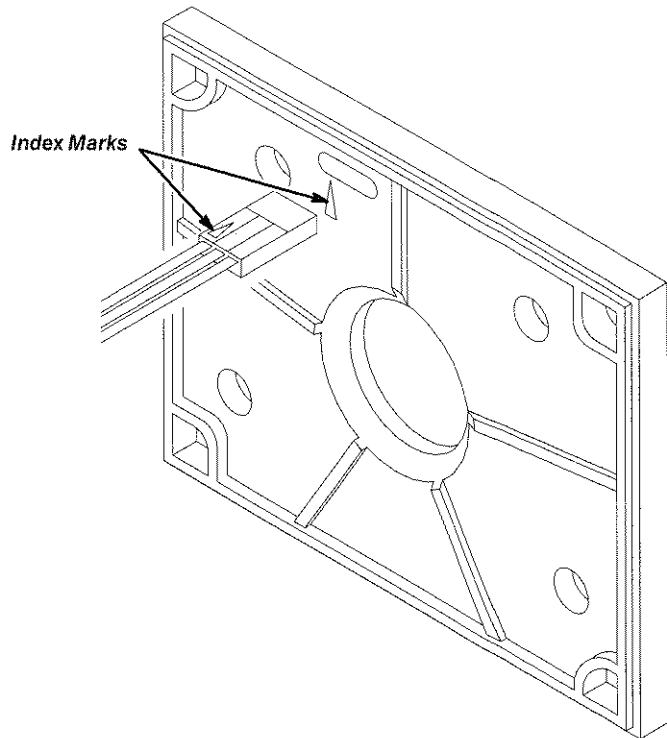

Figure 20: Connecting the Flash Unit Wire Connector
- Step 5:** Connect the flash unit wire connector as shown in Figure 20. Take care to align the index mark on the connector to the mark next to the access slot in the hood. Position the wire so that it does not obstruct the flash lamp.